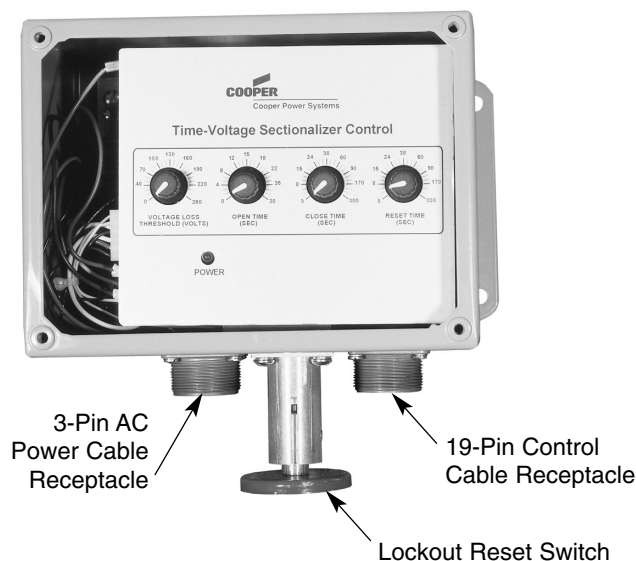

Figure 4.
Operating parameters are set by four potentiometers on the front panel of the control. A lockout-reset pushbutton switch is provided at the bottom of the control. If adequate source voltage is present, pushing this switch causes the control to reset and issue a close signal to the sectionalizer. See Figures 4 and 5.
2. Connect the other end of the 19-pin cable to the bottom of the TVS control. See Figures 4 and 12.
3. Connect ac voltage cable to the 3-pin receptacle on the bottom of the control. See Figures 4 and 7.